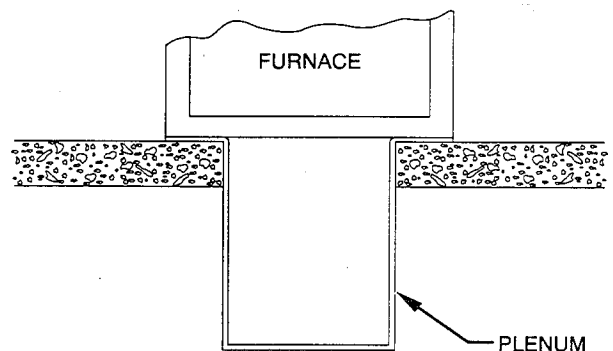

Fig. 5—Furnace on a Concrete Slab (Non-Garage Installation)
2. Place plenum and furnace as shown in Fig. 5.